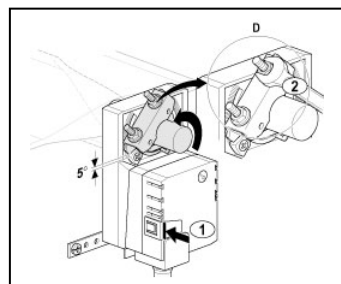

Fig 3
11. Press the manual release button and rotate the clamp CCW to CLOSE the damper. Loosen the close stop screw and adjust the close stop to approximately 1/16" to 1/8" from the clamp stop (5); and re-tighten the stop screw. **See Fig. 3**
9. Adjust the open stop against the clamp and secure. Install the reflective damper position indicator. **See Fig. 3**